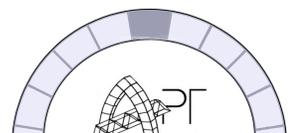

Figure 2: Example of a photo to be included in the report appendix to demonstrate dimensional compliance for the arch height.
- Demonstration of dimensional compliance of the arch design-build (Section 4.2.2.1 and Figure 2)
- Each illustration must have its own number (Fig. 1, Fig. 2, not Fig. 1a, 1b) and its own caption. Please indicate illustration reference at end of each caption (if not produced by the team). Images should be referenced within the body of the report.